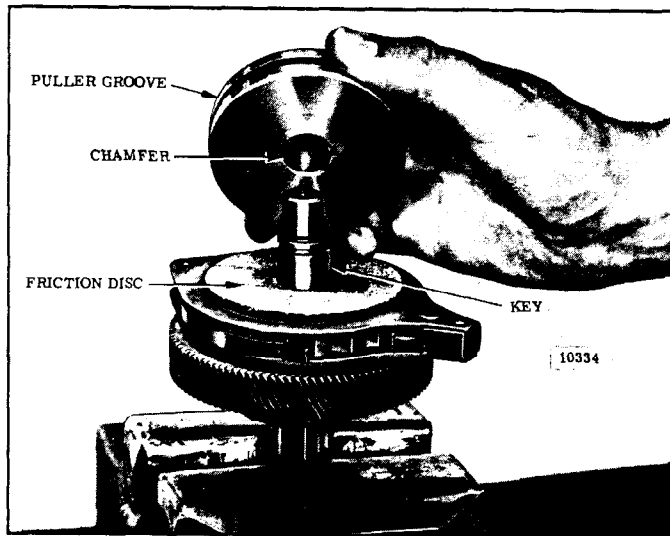

Figure 5-7. View Showing Load Brake Flanged Removed.
(2) Using a puller tool, remove brake flange from shaft. A groove is provided around outer diameter for this purpose. See Figure 5-7. Remove key from shaft and lift off 2 friction discs, and the pawl and ratchet assembly (Figure 5-8).
(3) When installing brake flange, position it with chamfer facing friction disc (Figure 5-7).